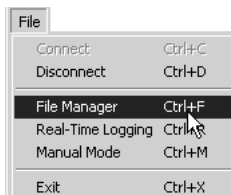

Figure 3-8. File ▶ File Manager
5. Click **File ▶ File Manager** (Figure 3-8).